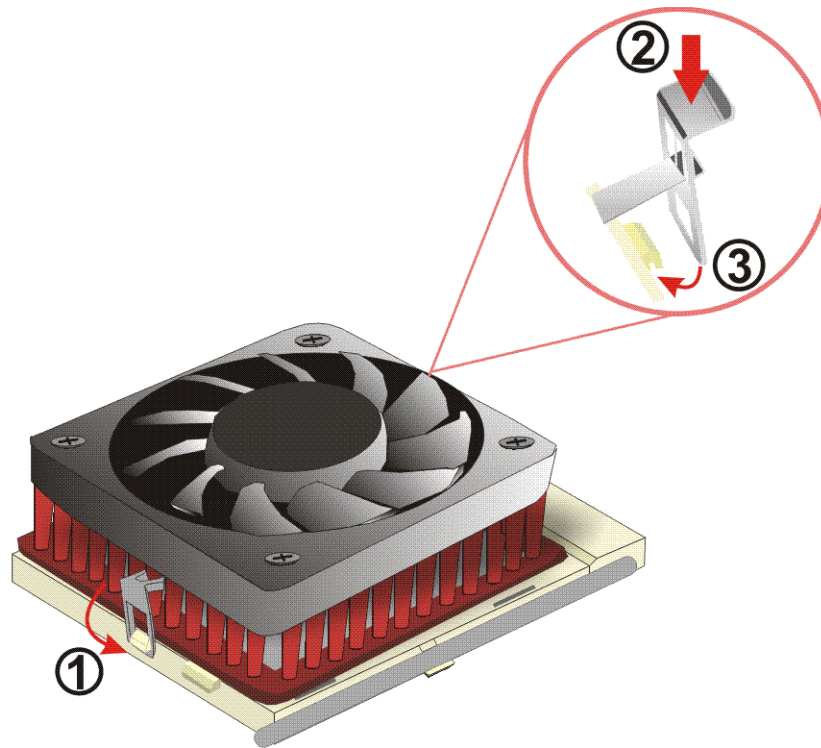

Figure 4-3: Install the CPU cooler
- Step 2:** Attach the unlevered mounting clip first. Slip the unlevered mounting clip under the connecting tab of the CPU socket. (See Figure 4-3)
- Step 3:** Secure the cooling kit in place. Gently push the levered mounting clip down with a slight inward movement to snap it into place under the connecting tab. (See Figure 4-3)